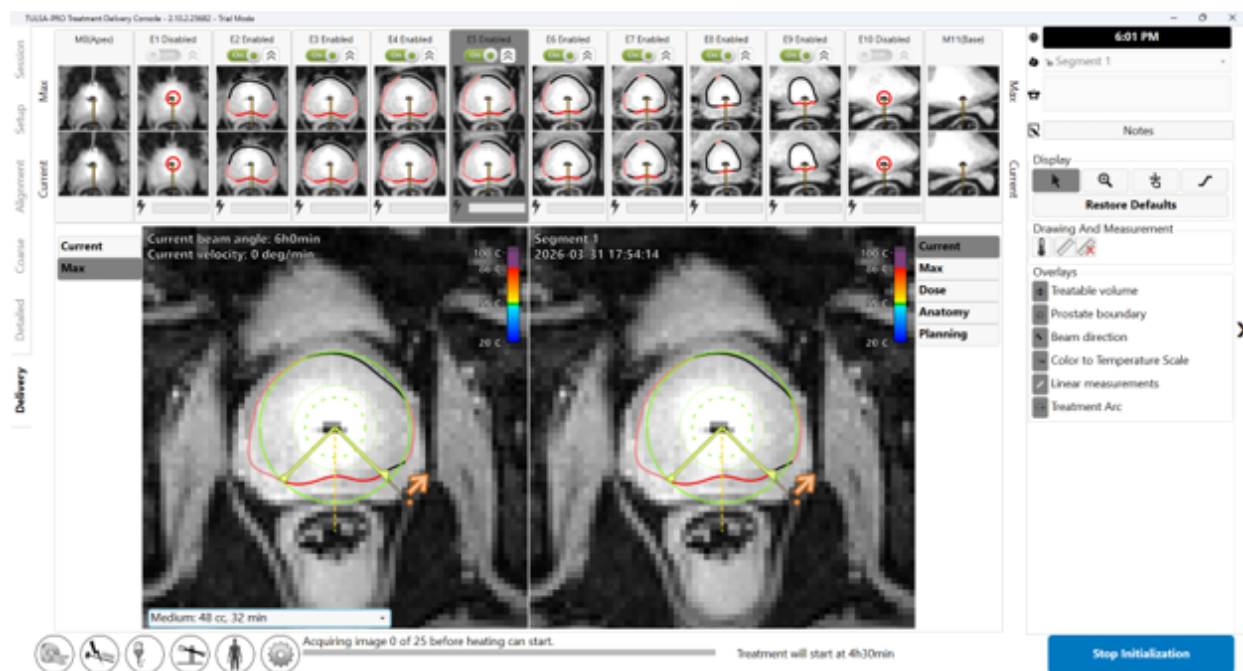

Figure 46: Treatment Initialization state
receive thermometry images (*Figure 46*). Ask the MR technologist to run AX THERM.
2. **Radiologist:** Click **Start treatment** on TDC. It will prompt you to verify the core body temperature using an external temperature measurement device before proceeding. Enter the temperature in degrees Celsius and click **Confirm**. The TDC will go into **Treatment Initialization** state and will start the thermometry scan on the MR console (*Figure 46*).